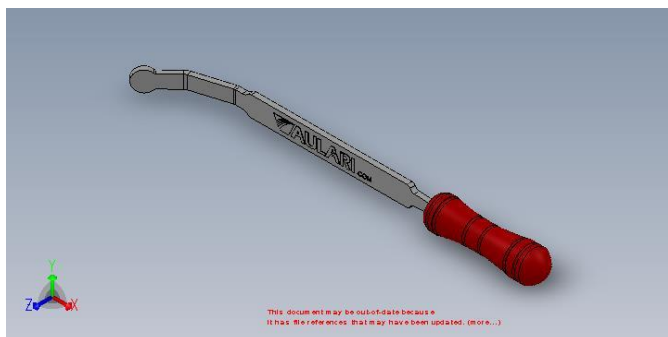

Figure 21
8. Make regular visual inspection of the distribution system, metering shaft and air box. Clean the metering roll splines, if necessary, with the scraper designed for this purpose [Figure 21].